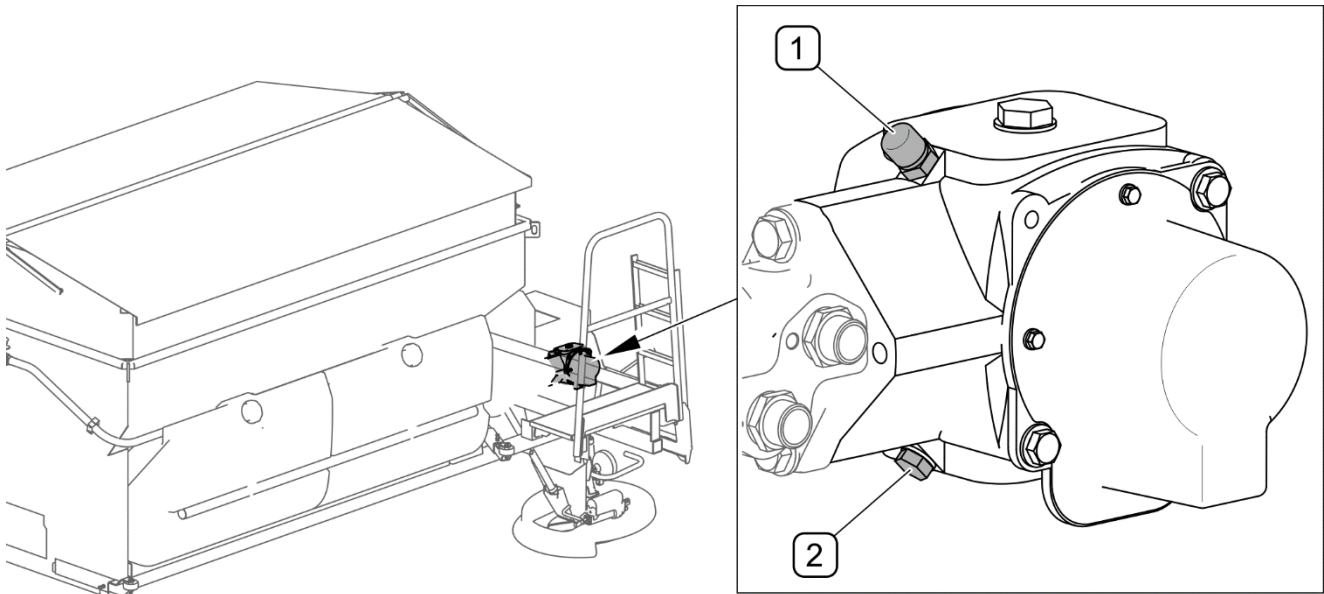

FIG. 5.7 Changing oil in the belt conveyor drive transmission
- unscrew filler plug (1) (FIG. 5.7)
- unscrew drain plug (2) and drain oil to previously prepared basin,
- tighten drain plug (2) and pour new oil through filler plug opening (1)
- check that air vent in filler plug (1) is not blocked, if necessary clean the air vent
- tighten drain plug (2).